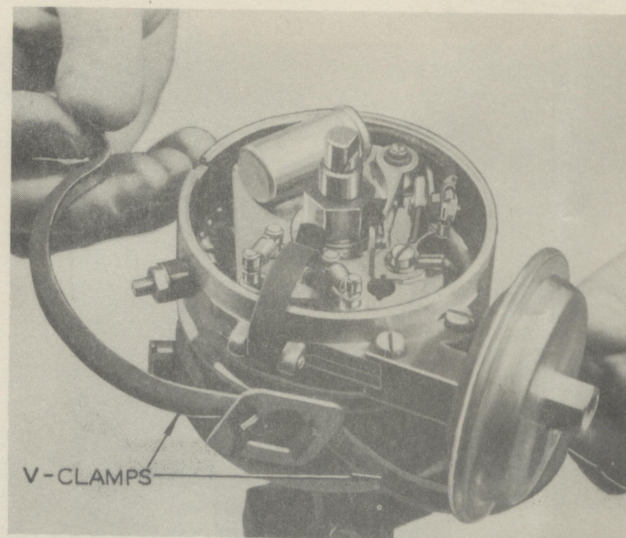

Fig. 3
1. Disconnect the primary wire and vacuum line. Remove the adjusting clamp screw, nut, and V-clamps (Fig. 3).